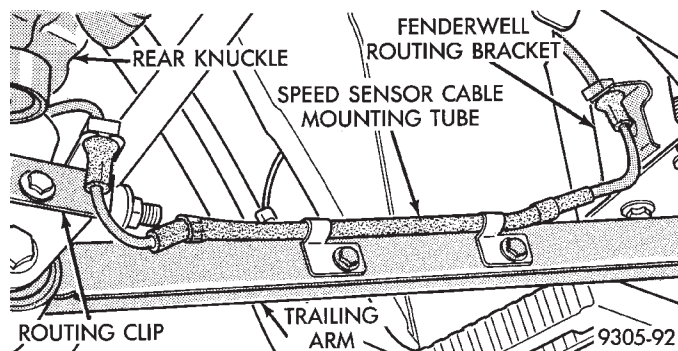

Fig. 14 Rear Speed Sensor Cable Attaching
(6) Remove screws attaching speed sensor cable mounting tube to inboard side of trailing arm (Fig. 14). Remove speed sensor cable routing brackets from rear fender well and trailing arm bracket at rear knuckle (Fig. 14).
(1) Coat speed sensor where it slides into adapter with high temperature multi-purpose E.P. Grease before installing into adapter. Install speed sensor head into adapter. Install speed sensor to adapter attaching screw. Torque the speed sensor attaching screw to 7N•m (60 in. lbs.).
(2) Install speed sensor cable mounting tube on trailing arm. Install speed cable routing tube to trailing arm attaching screws (Fig. 14). Install speed sensor cable routing brackets at rear fender well and rear knuckle (Fig. 14).